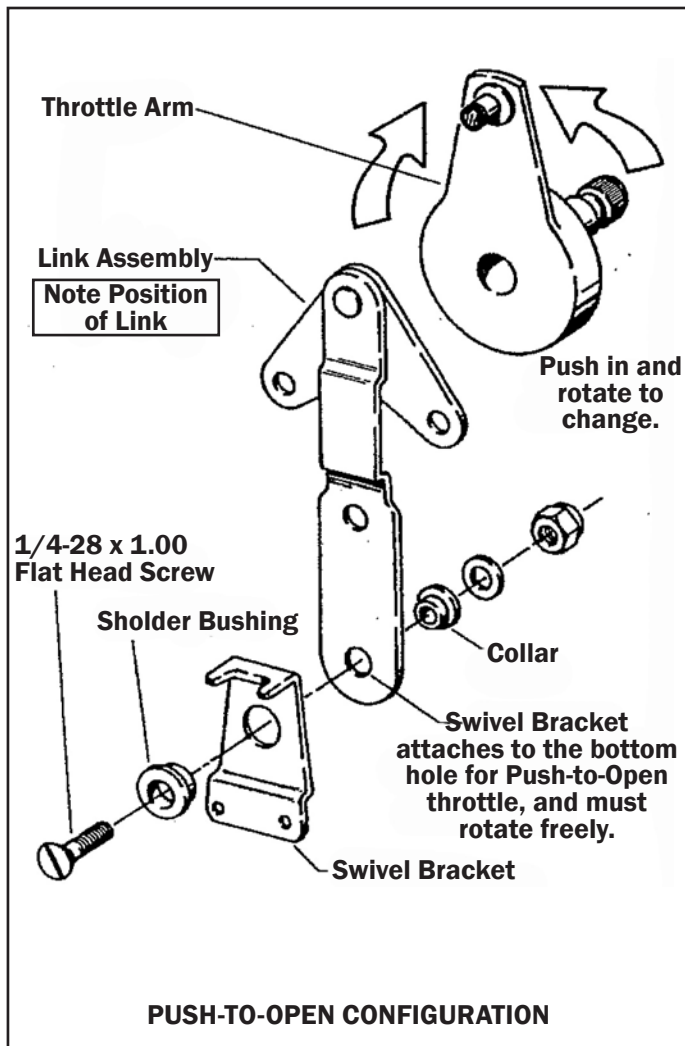

Figure 4.
The Throttle lever may be factory-set for “push” to open throttle. Refer to Figure 4. If you find it necessary to change to “pull” to open throttle, proceed as follows:
STEP 4. Remove the two (2) hex head screws, at the Link Assembly, and remove the Link. Make sure the Shift Arm does not change notch positions.
STEP 7. Attach the Swivel Bracket in the proper hole. See Figures 4 and 5 for proper location.